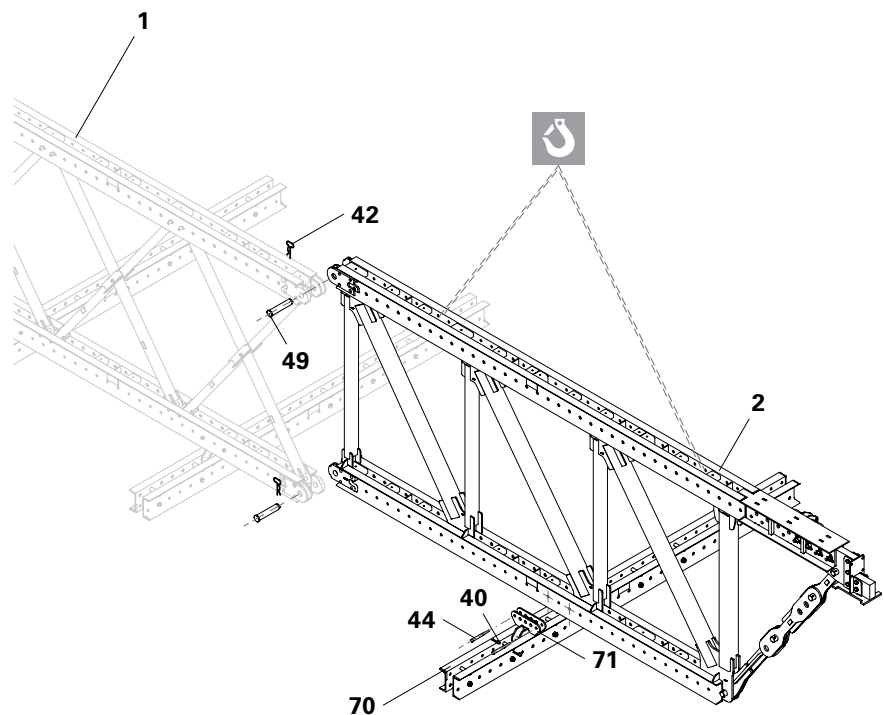

Fig. A1.08
1. Lay out one Climbing Rail (70) next to the first Standard Frame (1). The Climbing Rail must be positioned under the centre of gravity of the Bearing Frame (2).
2. Fix one Cross Connector (71) to the Climbing Rail by means of fitting pins (44) and secure with cotter pins (41).
4. Remove cotter pins (42) from both frames and pull out bolts (49).
- (Fig. A1.08)